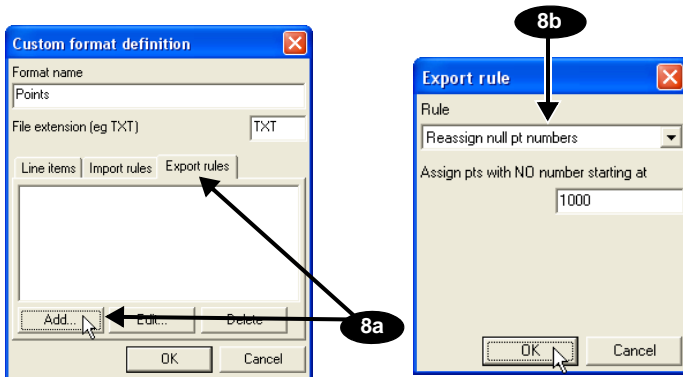

Figure 2-19. Enter Export Rules
9. Press the *Export rules* tab, then press **Add**. Select the desired *Rule* and type a number to start at for points with no number. Click **OK** (Figure 2-19).